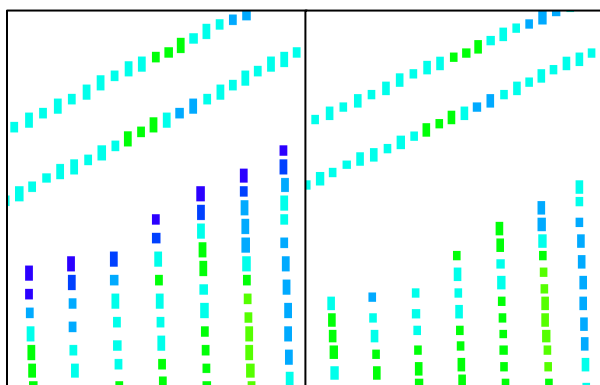

Figure 2: On the left, no start pass delay has been applied. On the right, start pass delay was set to 3.
- “Start Pass” and “End Pass” delays allow users to remove a set number of unreliable datapoints from the beginning and end of each harvester pass (Figure 2).